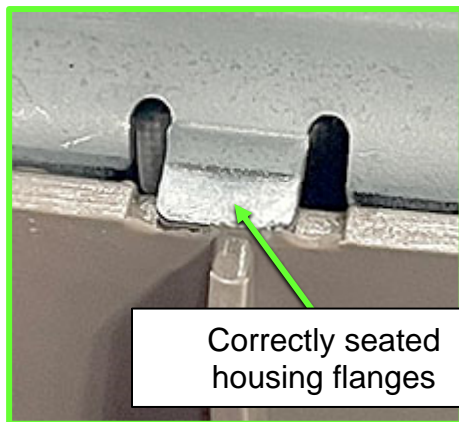

Figure 30
30. Ensure each of the four (4) housing flanges are positioned over the cover-wall edge and the housing corners are seated with no cushion material visible.
- Figure 30 and Figure 31 show an example of one (1) of the four (4) housing flanges seated correctly.